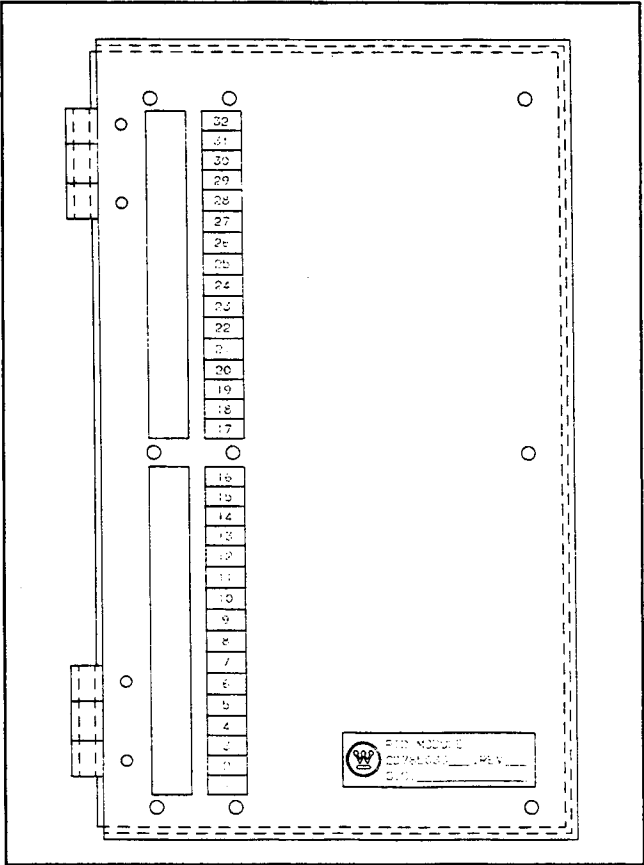

Figure 2.2 — RTD Chassis
2.1.3.1 RTD Option — The RTD Option comes in a separate enclosure. (See Figure 2.2.) The RTDs connect with the large terminal block, as described in Paragraph 5.2. 120 VAC control power must be supplied to RTD module for operation.